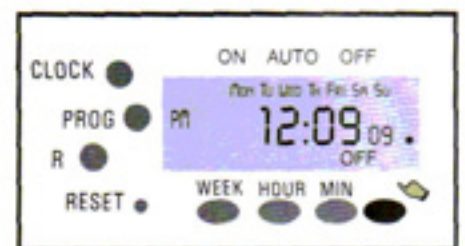

Figure 13
- 3.3 If the display is reading "OFF" (See Figure 13) then the timer is OFF.